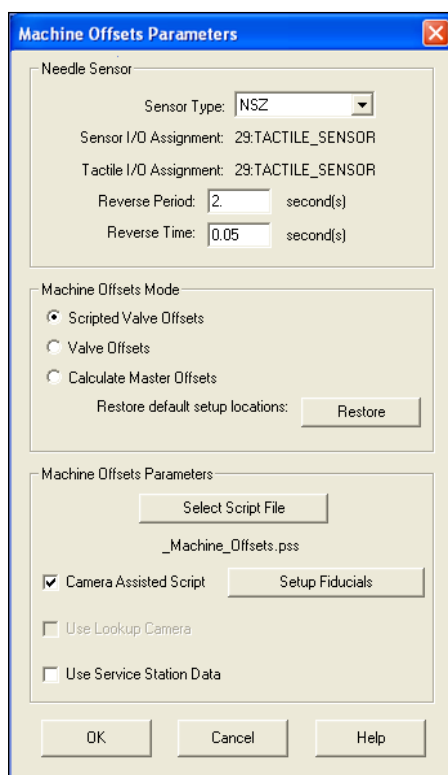

Figure 4-3 Machine Offset Parameters Setup
- ▶ The Machine Offset Parameters window (Figure 4-3) opens.